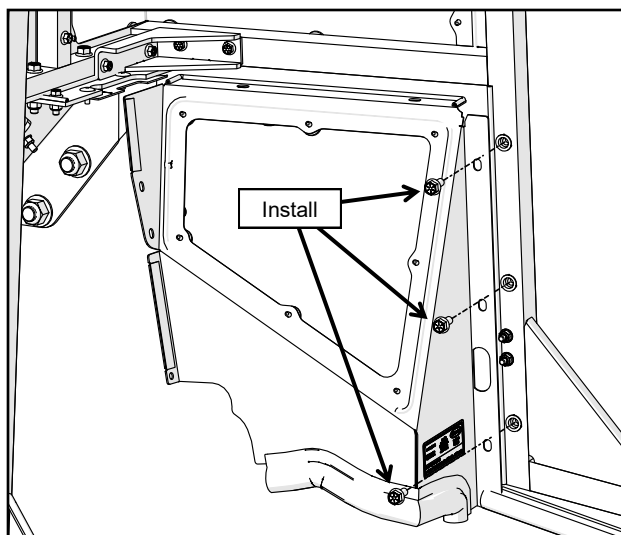

Fig. 2.16a (Install Left Filler, Inside View)
2.16 Install left filler onto the cab from the inside using provided hardware per Figures 2.16a and b.